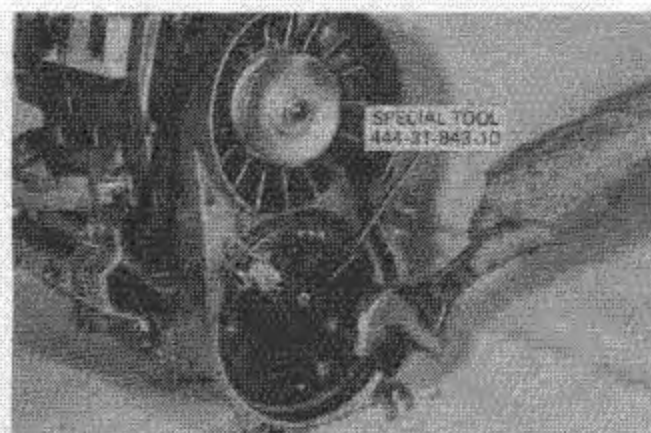

Fig. 11 — Removing Flywheel
3. Remove flywheel nut, use special pulier and remove flywheel, Fig. 11.